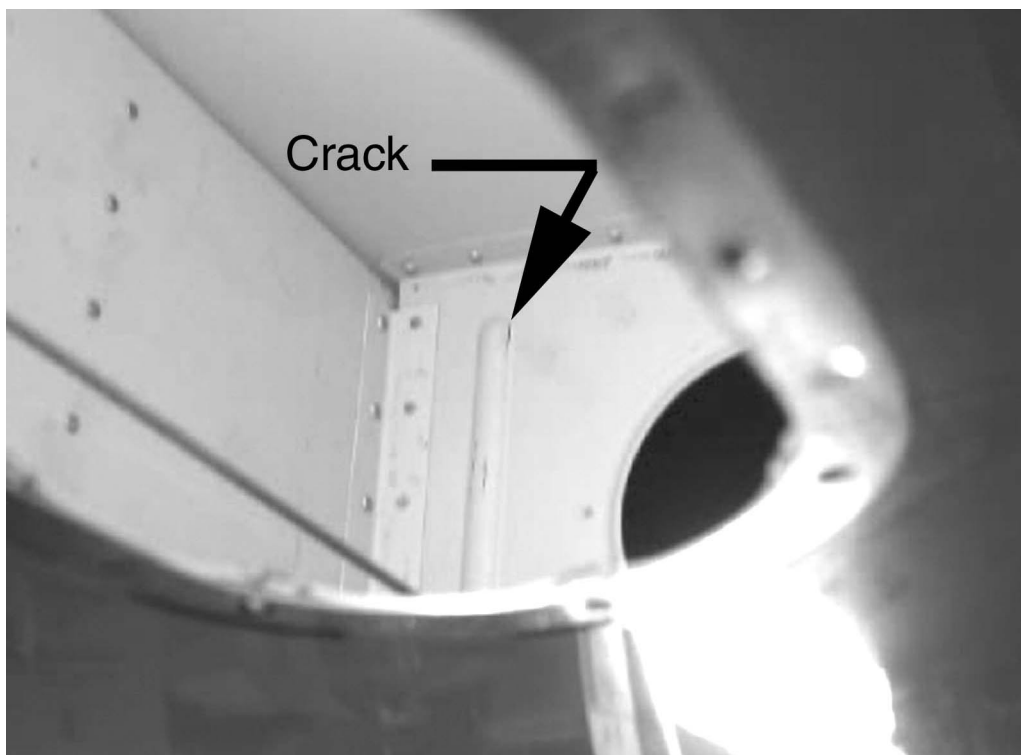

Figure 1
PURPOSE: A report has been received of a crack that may have been created during the manufacturing forming process at the edge of the forward stiffening bead in the Intermediate right hand Rib 35617-001, Sta. 123.15 that is located aft of the main spar. See Figure 1 showing the rib and cracked bead that was included in the report.
2. Visually inspect the forward bead in both Wing Station 123.15 ribs for cracks. See Figure 1.
4. If cracks are found at the edge of the bead as shown in Figure 1, repair as follows: